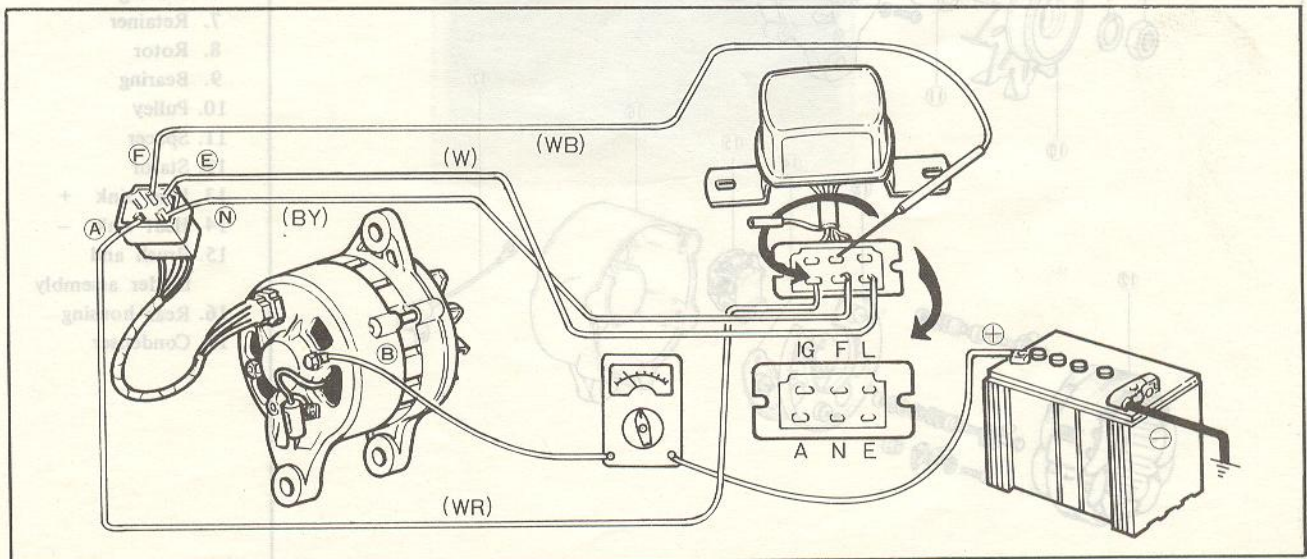

Fig. 5-4 Checking charging system
1. Disconnect the wire from "B" terminal of the alternator and connect the ammeter with the negative lead of the ammeter to the wire and the positive lead to the "B" terminal, as shown in Fig. 5-4.